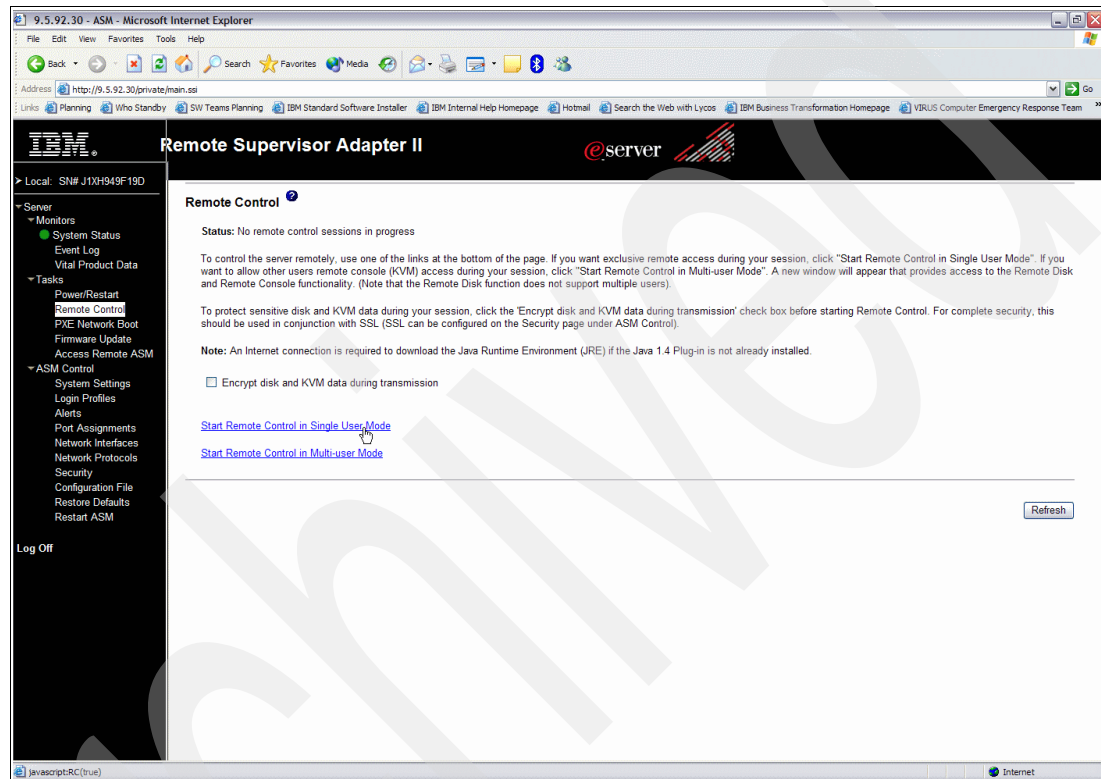

Figure 6-81 Start Remote Control on RSA II (xSeries)
RSA II stands for Remote Supervisor Adapter II. This RSA is the service processor (SP) for an xSeries. To start Remote Control on the Remote Supervisor Adapter (RSA) of an xSeries to see the state of Windows or see it booting, follow the steps (Figure 6-81 on page 231):